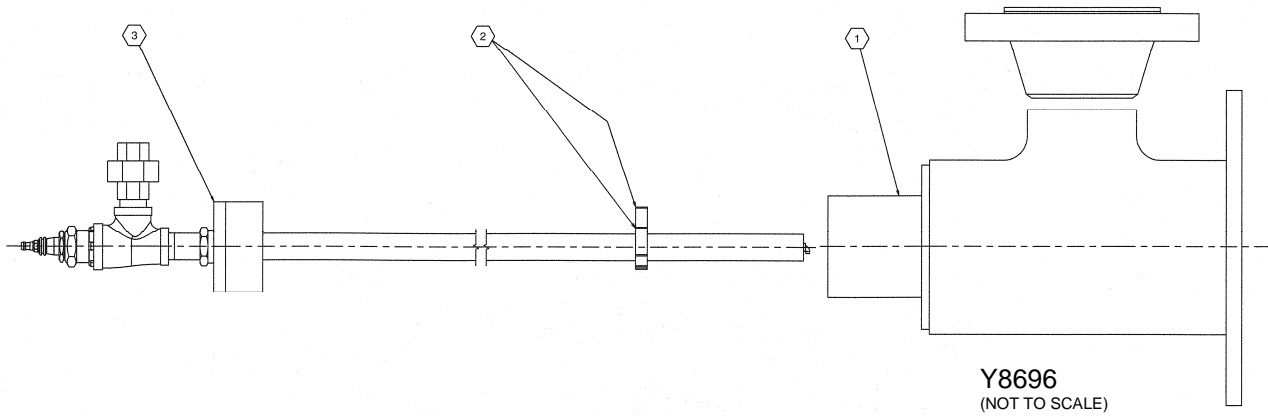

Figure 5. TriOx Spark Igniter Replacement
1. Disconnect cooling air from spark igniter and remove spark igniter from burner (refer to applicable sections of Section I. Maintenance, Figure 5).